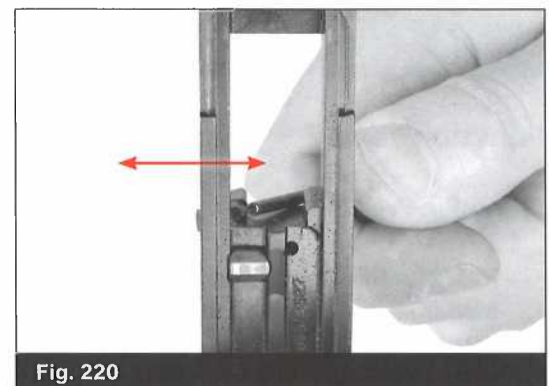

Fig. 220
- If a new Extractor Depressor Plunger (EDP) is installed, it should be seated by pushing against the extractor with the pin punch. This will optimize the position of the spring-loaded bearing of the extractor depressor plunger with respect to the extractor to allow maximum caliber width. (Fig. 220)